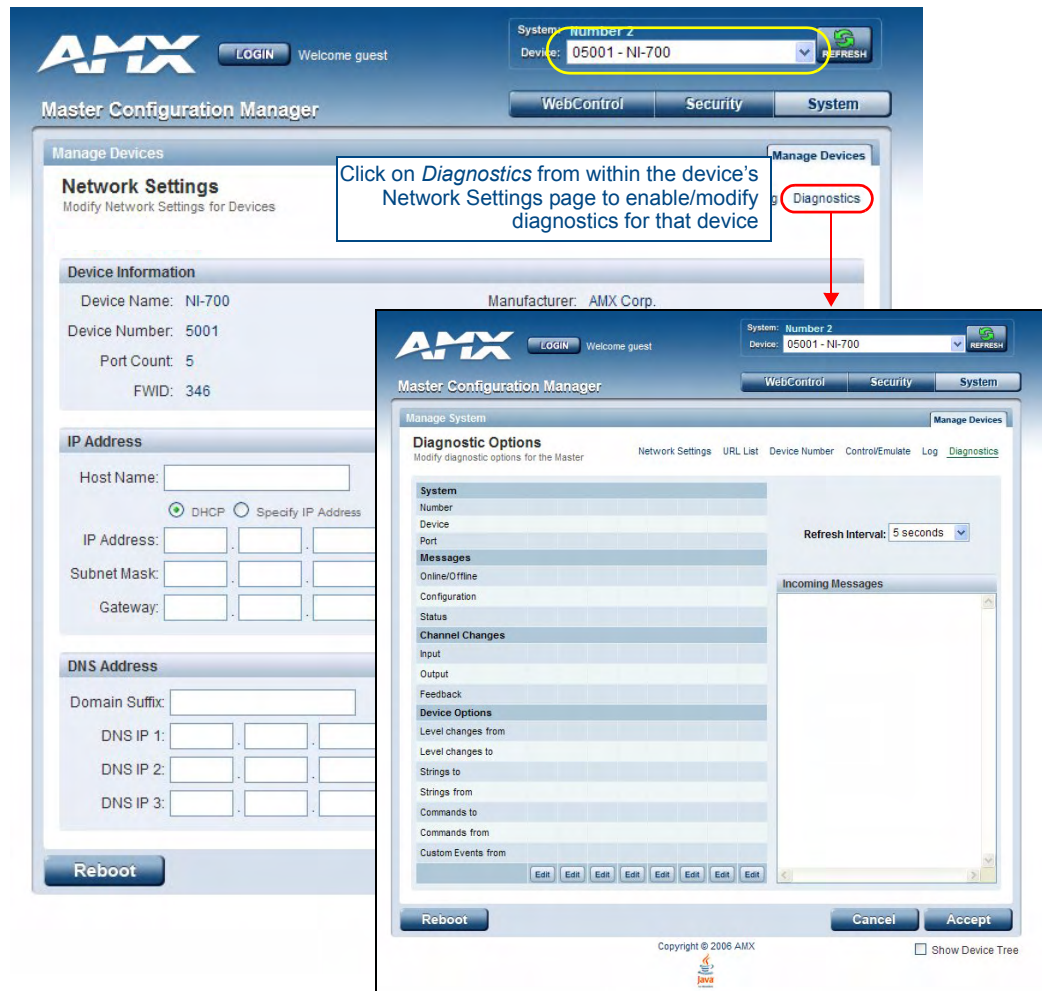
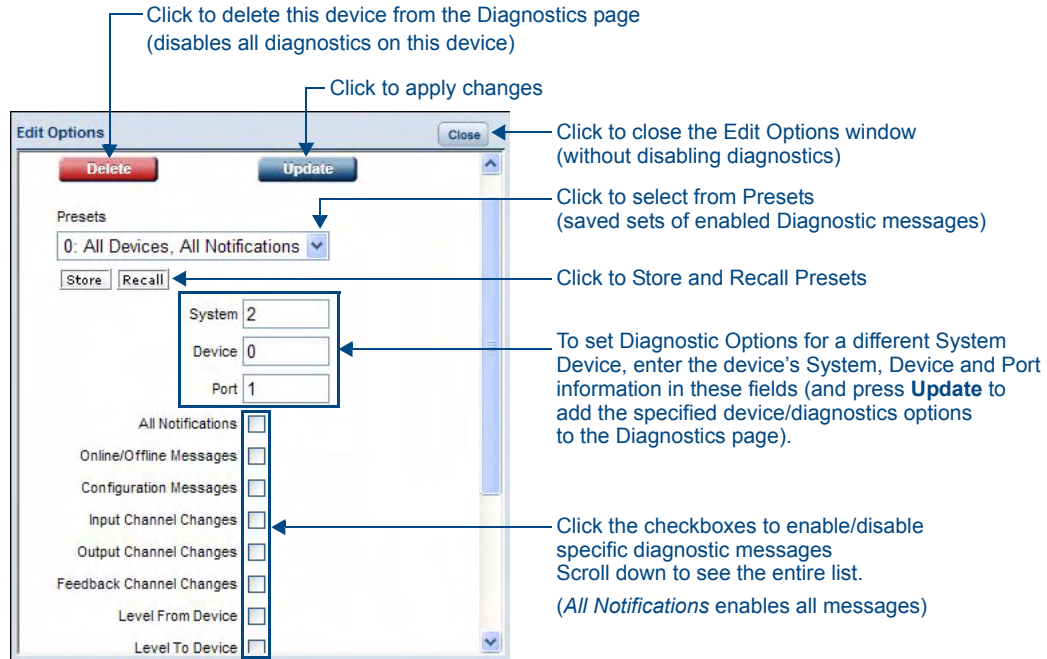

FIG. 32 Select Diagnostics from within a selected Device's Network Settings page
FIG. 33 Edit Options window
information on the selected device (including network configuration details). An example Network Settings page is shown in FIG. 32:
- c. Click on the **Diagnostics** link. This opens a Diagnostics Options page for the selected device (FIG. 32).
2. By default, all diagnostics are disabled (see FIG. 32). To enable diagnostic messages from this device, click on one of the **Edit** buttons along the bottom of the Diagnostics Options table. This opens the Edit Options window (FIG. 33), where you can select which Diagnostics messages to enable or disable for this device. Once you have selected the diagnostics messages to enable, click **Update** to apply your changes, close the Edit Options window, and return to the Diagnostics page. Refer to the *Diagnostics Options Definitions* section on page 49 for definitions of each Diagnostic option.